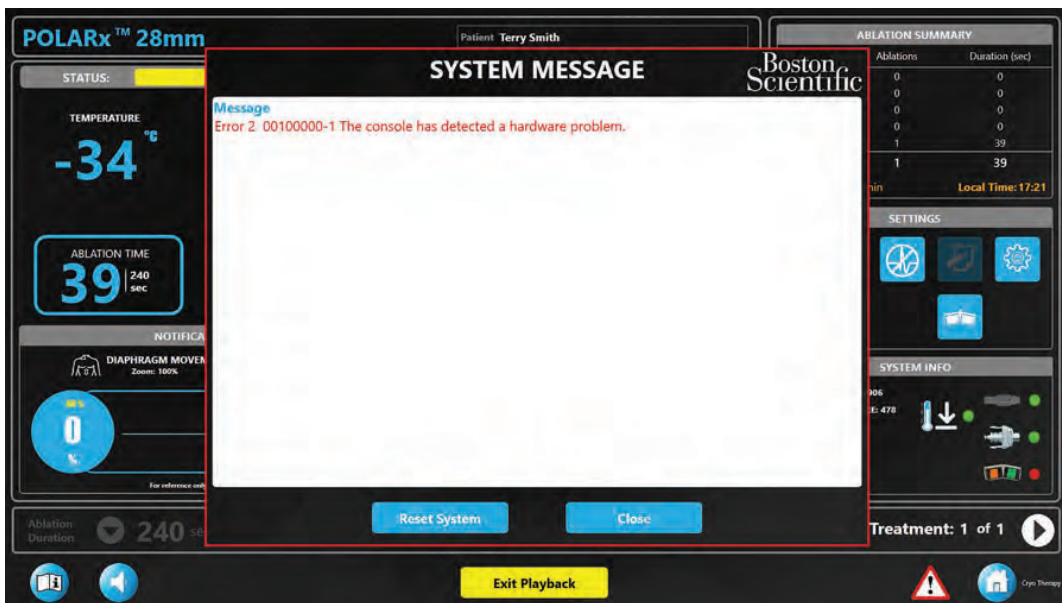

Figure 20. System Messages Window
- Press the red triangle at the bottom of the screen to open the system messages window (see Figure 19 and Figure 20).